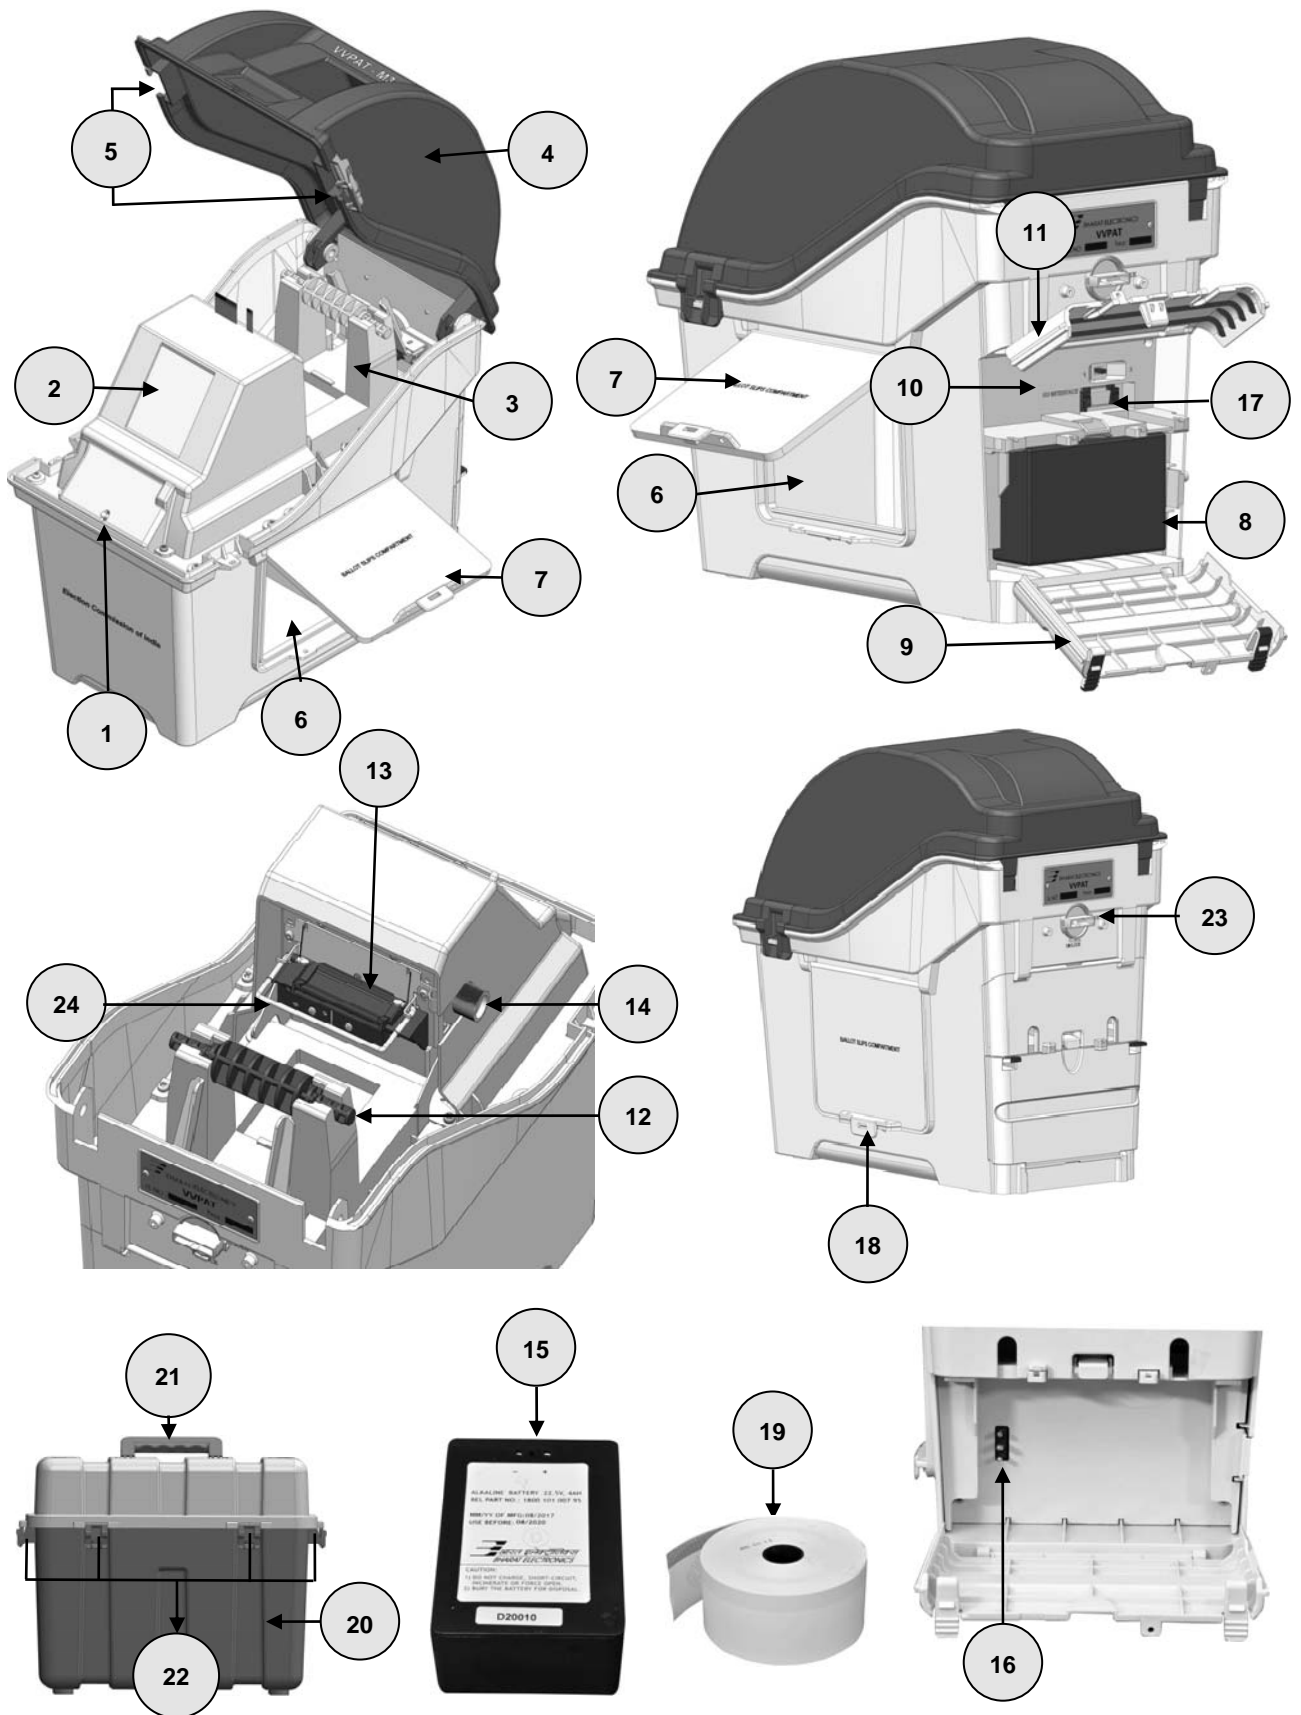

Figure 1.2 - Exploded View of VVPAT - M3 Unit
1.3.3 Part Details of VVPAT - M3 Unit : The names of the parts which are numbered in Figure 1.2 are as follows :
- (i) Paper roll compartment (3 in Figure 1.2)
- (ii) Ballot slips compartment (6 in Figure 1.2)
- (iii) Battery compartment (8 in Figure 1.2)
- (iv) Connector compartment (10 in Figure 1.2)
- (a) Power-ON LED (1 in Figure 1.2) indicates the power status of the VVPAT - M3 system. The LED will be turned ON when the VVPAT - M3 unit in UNLOCK condition is connected to the Control Unit and the CU is switched ON.
- (a) The Ballot slip viewing window (2 in Figure 1.2) is located on the front side. Normally the items behind the window are not visible and the window appears black.
- (a) The battery pack (15 in Figure 1.2) is the source of power to VVPAT - M3 system and is housed in the battery compartment accessible from the back side of the VVPAT - M3 unit.
2.1.8 Spindle : Spindle (12 in Figure 1.2) is used to hold the paper roll in proper place without disturbing the paper movement.
2.1.10 Paper Roll : The cast vote is printed on thermal paper provided in paper roll (19 in Figure 1.2) format. Front side of the paper is white in colour while the back side has a running band of black markers rectangular in shape (10 mm x 0.5 mm) pre-printed towards one edge.
2.1.11 Paper Feed Knob : Paper feed knob (14 in Figure 1.2) is meant to manually assist insertion and positioning of paper in the printer mechanism when new roll is loaded in the VVPAT - M3. It can be rotated clockwise to move the paper forward.